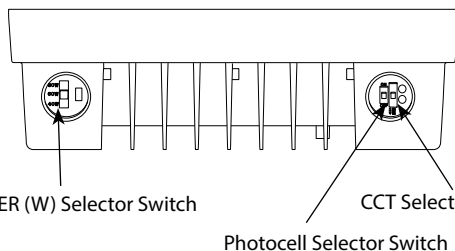

Fig: 8
2. Locate the **Selector Switches** on the fixture (*Fig. 8*).
3. Select **Power (W)** and **Color Temperature (CCT)** by sliding the respective switch to the desired value.